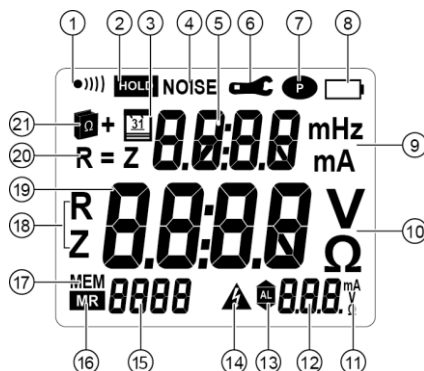

Fig. 6
The audible signal can be activated or deactivated in *SET-UP* (see chapter 8, menu 2). The ●))) icon (*Fig. 6*, item 1) behaves as follows: